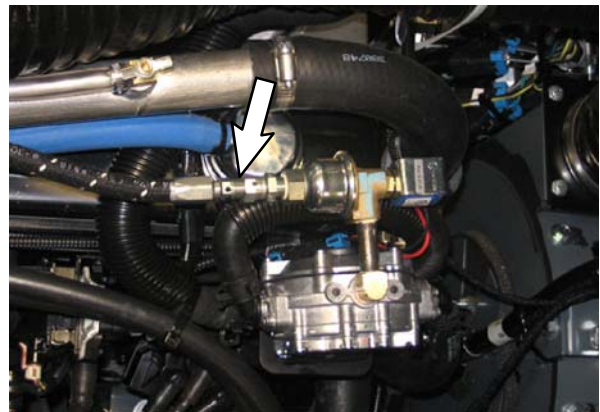

FIG. 6
5. Loosen the LPG line at the lock off to allow any remaining fuel to drain from the line. (Fig. 6)